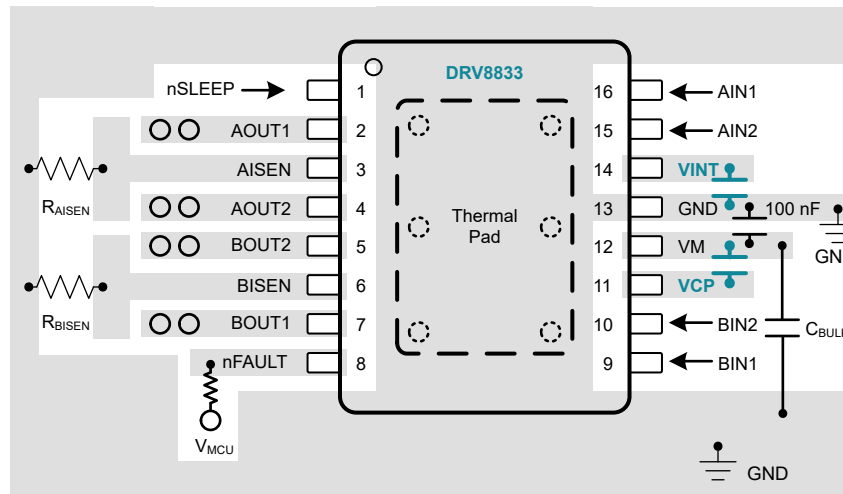

Figure 9-21. DRV8833 Layout Example
- DRV841xPWP can use the same footprint as DRV8833 and DRV8833C in the HTSSOP package as shown in Figure 9-21 and Figure 9-22.